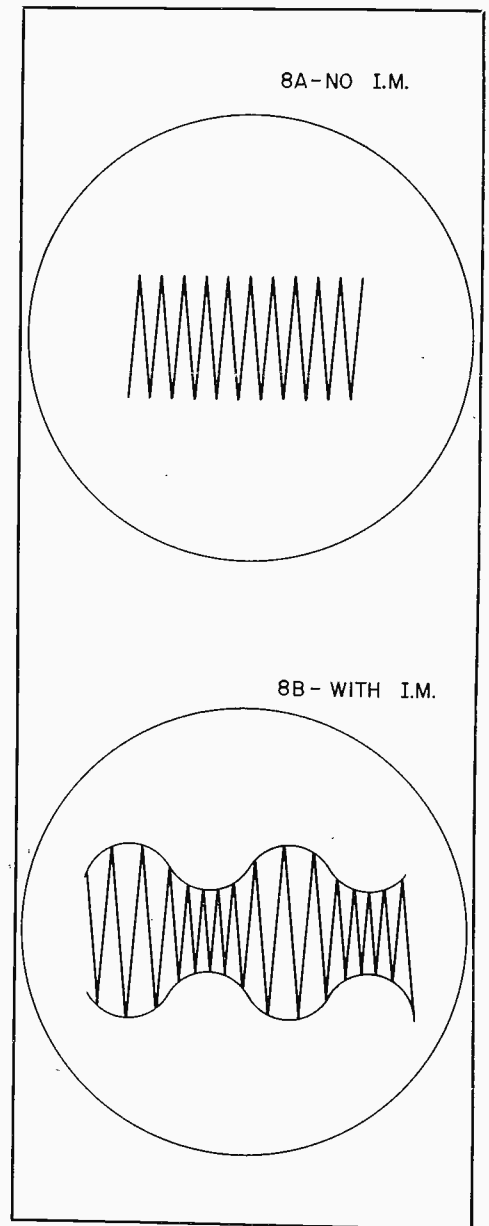

Figure 8—Oscilloscope patterns2 obtained from circuit shown in Figure 6.
To perform the actual measurement, the voltage of the low frequency note is adjusted to be four (4) times the voltage of the high frequency at the input to the amplifier. The oscilloscope is then synchronized to the low frequency of the modulation envelope, and patterns such as those sketched in Figure 8 will be observed. These will be recognized as the normal modulation envelope that is obtained from a modulated RF wave. The depth of the modulation provides an indication of the amount of intermodulation which is present within the amplifier. The pattern shown in Figure 8A indicates no intermodulation is present; Figure 8B shows the pattern observed when intermodulation is present.
LeBell1 has derived a quantitative method for determining the amount of I.M. present on a pattern such as that shown in Figure 8, by correlating the depth of the modulation, or the depth of the modulation "notch," with measured quantities of I.M. distortion. The method of obtaining the percent "notch depth" is shown in Figure 9; and, this notch depth is related to the I.M. as shown in Figure 9. It should be noted that the curve is a straight line with a 1:5 slope in the region below 50 percent